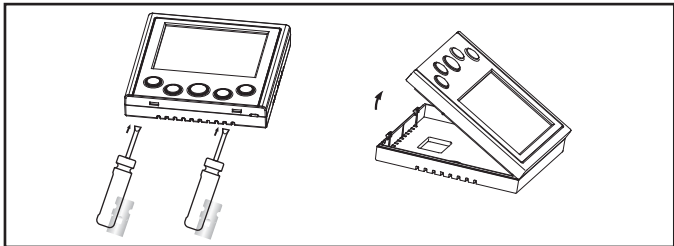

Figure 1. Remove Controller from Back Cover
1. Remove the controller from the back cover using a flat head screw driver as shown. See figure 1.